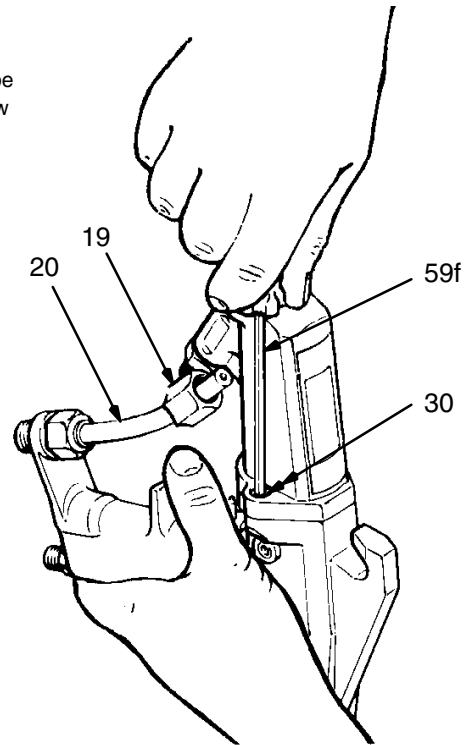
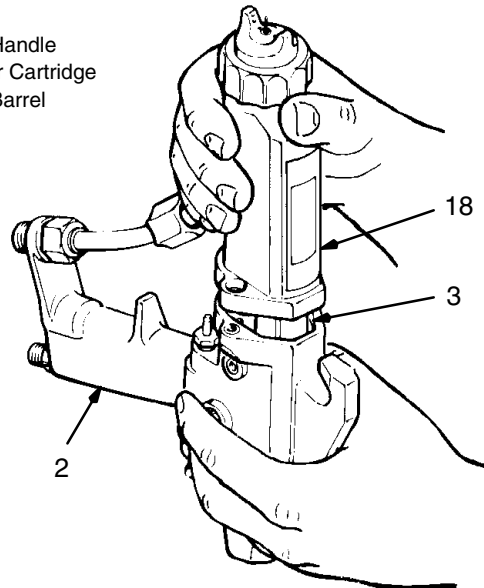

Fig 12
Fig 13
1. Unscrew the nut (19) at the barrel (18) fluid inlet. See Fig 12.
2. Pull the fluid tube (20) out of the fluid inlet.
3. Remove the trigger (43) by removing the screws (42) and spacers (41) from the gun.
4. Remove the ES indicator lights (64) from the socket head capscrews (30).
5. Using the wrench (59f) supplied, loosen and remove the two socket head capscrews (30) from the gun.
6. Hold the gun handle (2) with one hand and pull straight up to remove the gun barrel (18). See Fig 13.
1. Be sure the gasket (46) is in place. Replace if damaged. Place the barrel over the power cartridge (3) and onto the gun handle (2). See Fig 13.
2. Install the two socket head capscrews (30) and tighten with the wrench (59f) supplied. See Fig 12.
3. Snap the ES indicator lights in place over the socket head capscrews (30).
4. Insert the fluid tube (20) into the fluid inlet of the gun barrel and tighten the nut (19).
5. Install the trigger (43) with the screws (42) and spacers (41). Test the gun resistance as instructed on page 16.